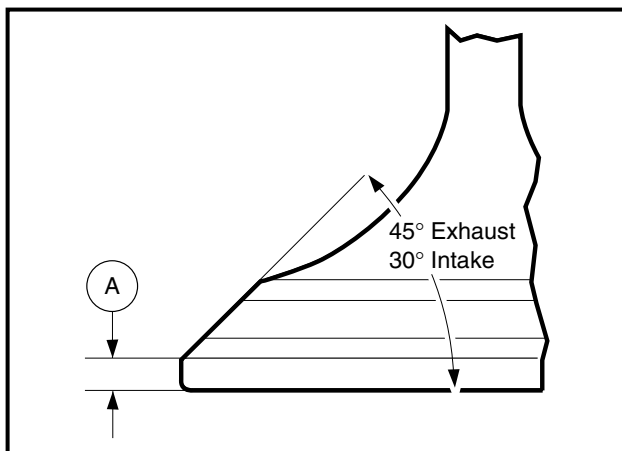

Figure 13-29 Valve Seating Surface Area
NOTE: The valve seating surface angle is 30° (Intake), 45° (Exhaust) (**Figure 13-29, Page 13-17**).
1. Measure the thickness of the valve head, as shown (**Figure 13-29, Page 13-17**).
2. If the valve head thickness (A) is less than 0.024 inch (0.610 mm), replace the valve (**Figure 13-29, Page 13-17**).